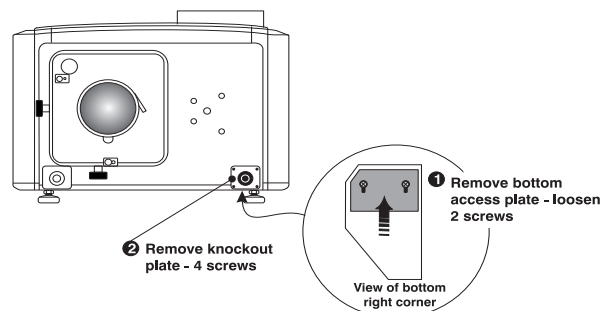

Figure 2-10 Remove Access and Knockout Plates
1. A small electrical access plate is located in the lower right corner of the projector faceplate. Loosen the two screws and slide the plate forward to expose the terminal block underneath. See **Figure 2-10**.